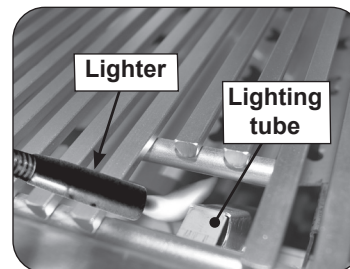
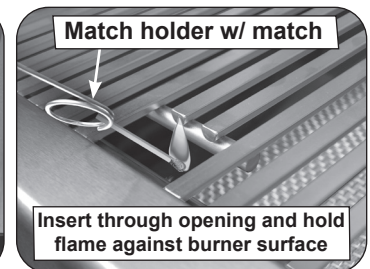

Fig. 37-2 Manual lighting via lighting tube
Fig. 37-3 Manual lighting via match holder
2. Insert either a burning long-barrel butane lighter or a burning long-stem match through the cooking grid opening to the top of the lighting tube (see Fig. 37-2). For backburners or infrared burners, hold the flame against the surface of the backburner/infrared burner. Grills equipped with an infrared burner include a wire extension match holder (attached to drip tray) to assist with manual lighting (see Fig. 37-3).
4. If the burner does not light within five (5) seconds of turning the control knob, **immediately depress the knob and turn the valve to OFF**. WAIT FIVE (5) MINUTES before repeating steps 2 through 4 of the MANUAL LIGHTING instructions.